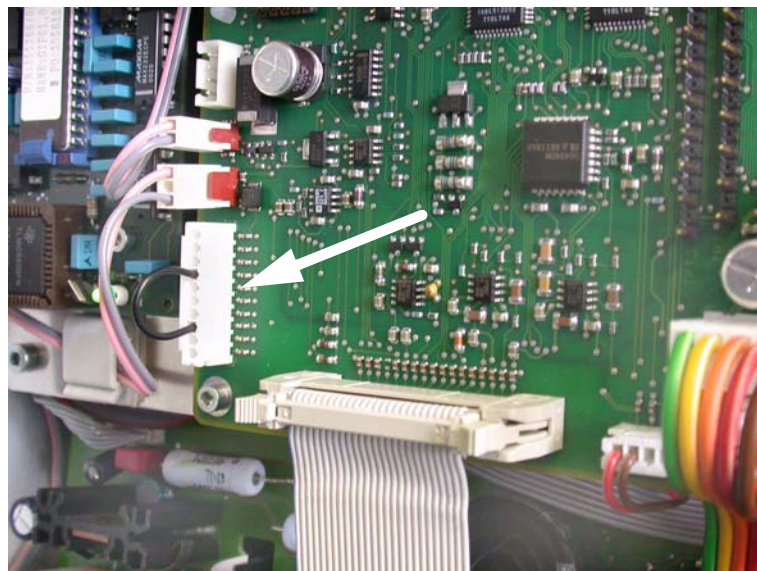

Figure 10-10. The bridge controlling the parameter displayed in ADC 12
1. Ensure that the bridge (PN 155529) shown in Figure 10-10 is in place.